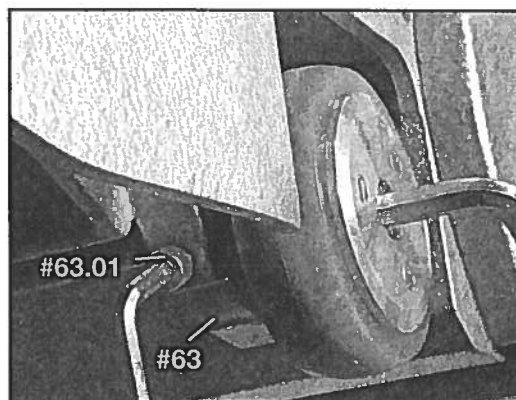

Fig. 12 Wheel cam adjustment
1. Tip the machine and rest it on the right side, opposite the belt guard. Locate the right-wheel cam #61, and notice a mark on it and the wheel bracket #63 prior to loosening the cam adjustment screw #63.01. See Figs. 12 and 13. This mark identifies your starting point. If needed, the original factory settings can be achieved by realigning the painted lines on the cam and wheel-bracket.